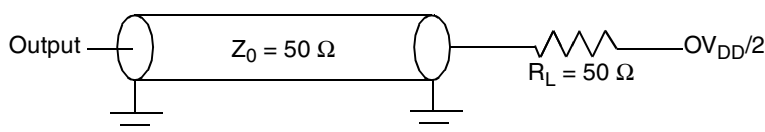

Figure 17. USB AC Test Load
1. All outputs are measured from the midpoint voltage of the falling/rising edge of t_{TCLK} to the midpoint of the signal in question. The output timings are measured at the pins. All output timings assume a purely resistive 50 Ω load (see Figure 17). Time-of-flight delays must be added for trace lengths, vias, and connectors in the system.
2. The symbols used for timing specifications herein follow the pattern of $t_{(first\ two\ letters\ of\ functional\ block)(signal)(state)}$ (reference)(state) for inputs and $t_{(first\ two\ letters\ of\ functional\ block)(reference)(state)(signal)(state)}$ for outputs. For example, t_{JTDVXH} symbolizes JTAG device timing (JT) with respect to the time data input signals (D) reaching the valid state (V) relative to the t_{JTG} clock reference (K) going to the high (H) state or setup time. Also, t_{JTDVXH} symbolizes JTAG timing (JT) with respect to the time data input signals (D) went invalid (X) relative to the t_{JTG} clock reference (K) going to the high (H) state. Note that, in general, the clock reference symbol representation is based on three letters representing the clock of a particular functional. For rise and fall times, the latter convention is used with the appropriate letter: R (rise) or F (fall).